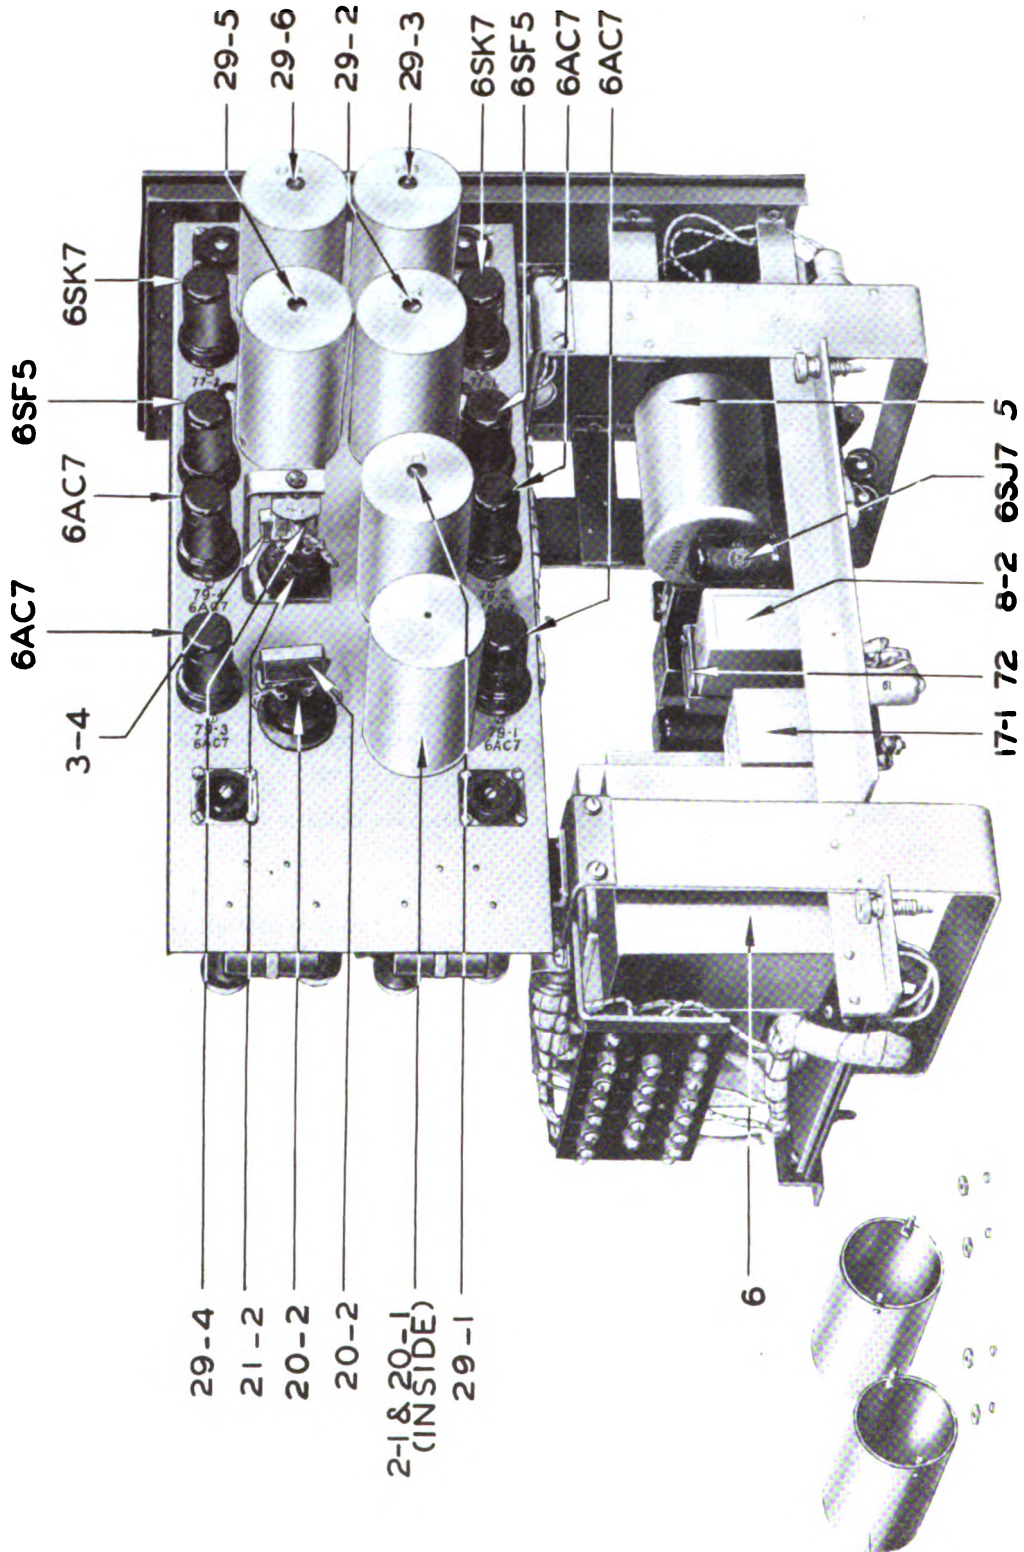

FIG. 9. OSCILLATOR-MULTIPLIER UNIT, HINGED CHASSIS RAISED
(1) The calibration test procedure is to apply a 29.5-kc voltage to the 29.5-kc phase shifter of the range unit, operate the latter to shift the phase of the voltage by a known amount, and then compare the change in dial reading with the theoretical change corresponding with the known shift. Observations at fairly close intervals on the phase shifter capacitor (say 18 degrees) are wanted, and this amount of shift is not conveniently measured on an oscilloscope directly. However, by applying the respective range unit input and output voltages to multiplier circuits and observing the tenth harmonics (295 kc) instead of the 29.5-kc voltages, the 18-degree intervals at the phase shifter become readily and accurately observable at 180-degree intervals on the oscilloscope.
(2) The tracking test procedure is to apply to the respective range unit phase shifters 1.64-kc and 29.5-kc voltages of fixed frequency ratio, and with the range unit output voltages connected to the plates of an oscilloscope, observe and measure on the screen the amount by which the relative phase of the voltages changes, as the range unit crank is turned.
(3) The oscillator circuit provides directly the above-mentioned 1.64-kc and 29.5-kc voltages, the latter being also the input source for the two multiplier circuits which provide the two 295-kc voltages.
*b. Oscillator Circuit (Figs. 9, 10, 11, 12)*
(1) The oscillator circuit consists of four sections: a crystal controlled oscillator, a tuned amplifier, a power amplifier and eighteenth harmonic generator circuit, and a fundamental frequency output amplifier circuit.
(2) The crystal-controlled oscillator circuit includes the oscillator tube 80-1 (6SJ7), the output of which is connected to resistors 12, 13, and 14 in series. A voltage from the junction of resistors 13 and 14 is fed back to the input through quartz crystal 5. The varistor 18, shunted
### c. Multiplier Circuits (Figs. 9, 10, 12)